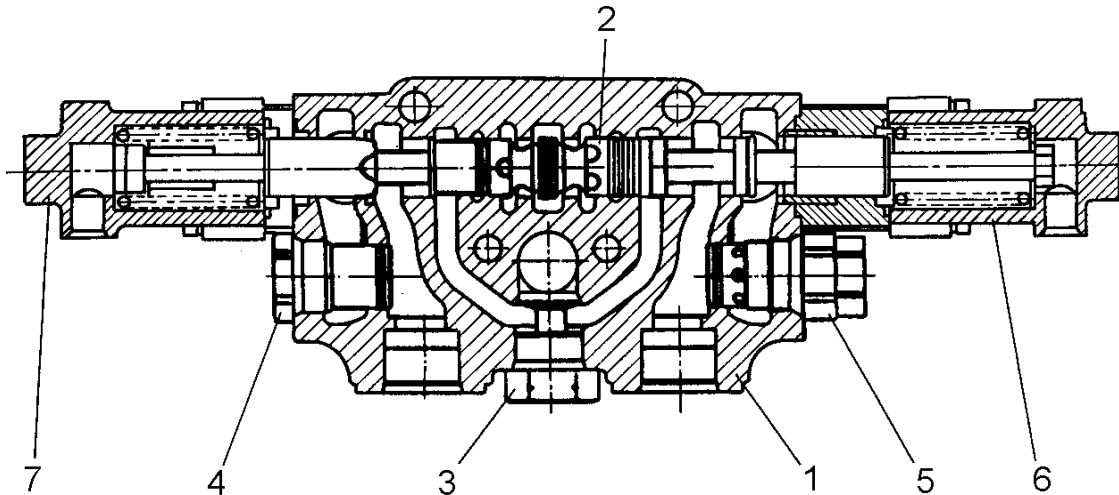

Fig. 10B.6. Cross Section View of Blade Lift Section
6. Reconnect R.H. pilot hoses (2, Fig. 10B.2) or pilot hose (3, Fig. 10B.4) R.H. side to control valve (1).
7. Reinstall head of filter (8) to the filter bracket (9) and secure it with four bolts.
8. Reconnect reservoir return tee (4) to control valve (1) hydraulic connector. Install return hose to the bottom of tee (4) and secure with clamp.
9. Install return tube (6) with connecting hoses (5) and secure with clamps (see Fig. 10B.2).
10. Reinstall R.H. enclosure (2, Fig. 10B.1) with R.H. door (1) and secure it with bolts (3).
13. Adjust the main pressure relief valve as described in SECTION 10, RELIEF VALVES PRESSURE TESTS. Close the door (1).